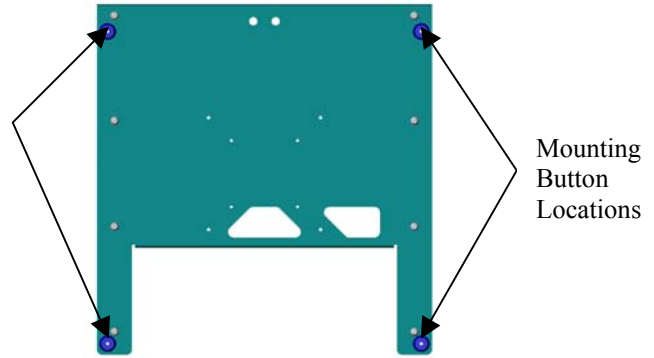
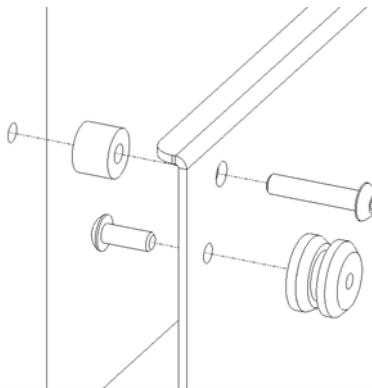

Figure 2
Figure 3
1. Using a 10-24 button head cap screw inserted from back side of bracket, secure mounting button in four outer hole locations as shown (four places) (see Figure 2 & Figure 3).